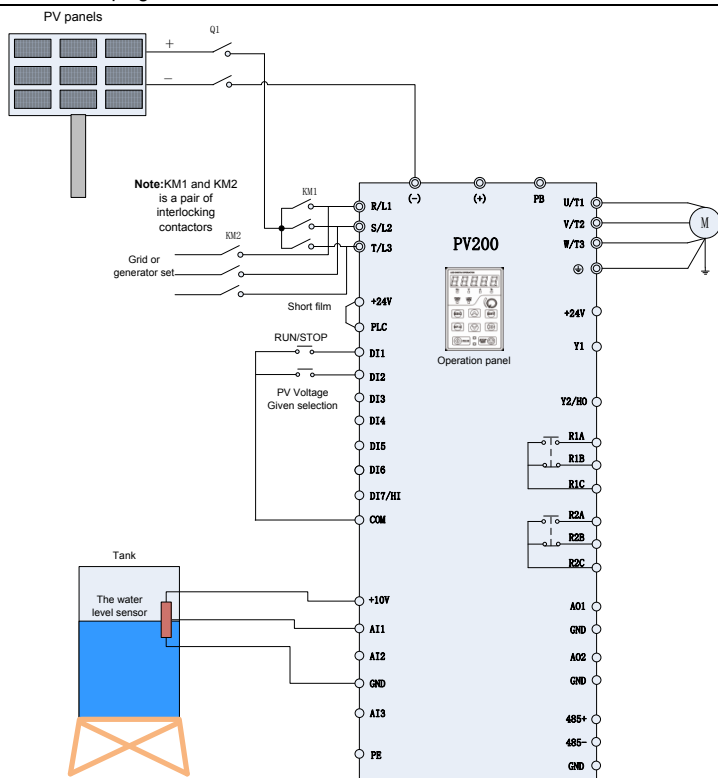

Figure 2-4 Grid or Generator Power Supply Wiring Diagram 2
Wire drawings of below inverters shown as Figure 2-4: PV200 series 3 phase 220V inverters with power higher than 18kw and 3phase 380V inverters with power higher than 37kw.
2. Disconnect the switch Q1, and then close Q2, switch to grid or diesel engine power; disconnect Q2, and then close Q1, switch to PV power supply; Figure 2-4 show inter-locking connection between connector KM1 and KM2, KM1 close is PV power supply, KM2 close is grid or generator power supply.